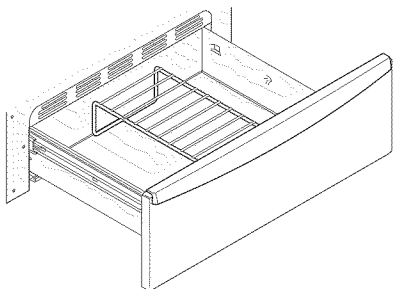

Figure 27: Upright position
- In the upright position (See Figure 27) to allow low profile food items to be placed both under and on top of the rack (for example, rolls or biscuits on top of the rack and a casserole dish underneath).